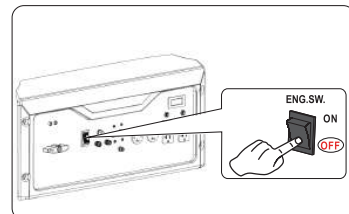

Fig 18
1. Turn the engine START/ON/OFF switch to the "OFF" position. (See fig 18)